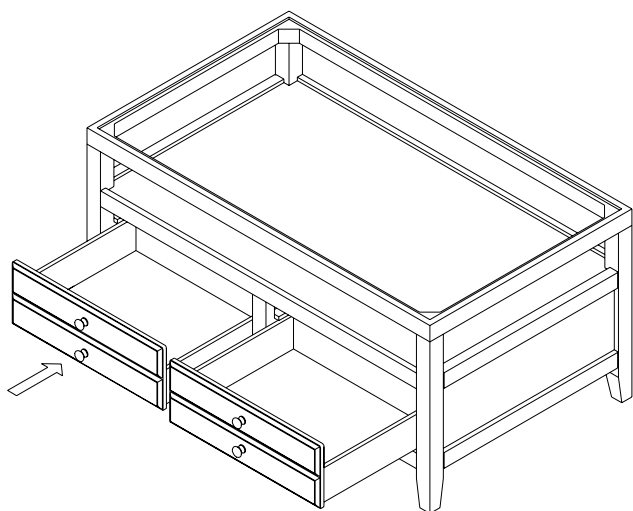

FIGURE 8
- INSERT THE ASSEMBLED DRAWERS INTO THE SPACE OF UNIT. AND PLACE THE GLASS TOP (M) ONTO SLOT OF TOP FRAME (L). (AS SHOWN IN FIGURE 8 & 9)